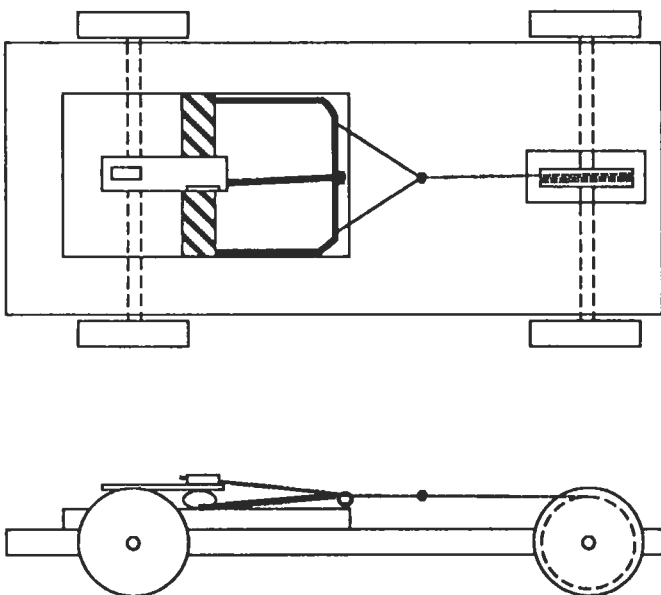

Figure 2 - Sample Mousetrap Vehicle Design
2. Study the drawing in Figure 2. Notice that the vehicle shown consists of a mousetrap, four wheels attached to two axles, and a **flywheel** or **transmission** attached to the rear axle. Note also that a line is attached to the arm of the mousetrap and is wound around the flywheel.
4. Using the materials provided, construct a test vehicle. Your design may be similar to the example in Figure 2.